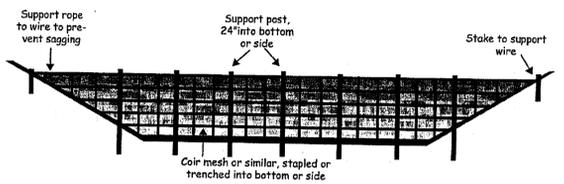

Figure 6.65b Cross-section of a porous baffle in a sediment basin. Note that there is no weir because the water flows through the baffle material.
- Baffles need to be installed correctly in order fully provide their benefits. Refer to Figure 6.65b and the following key points: